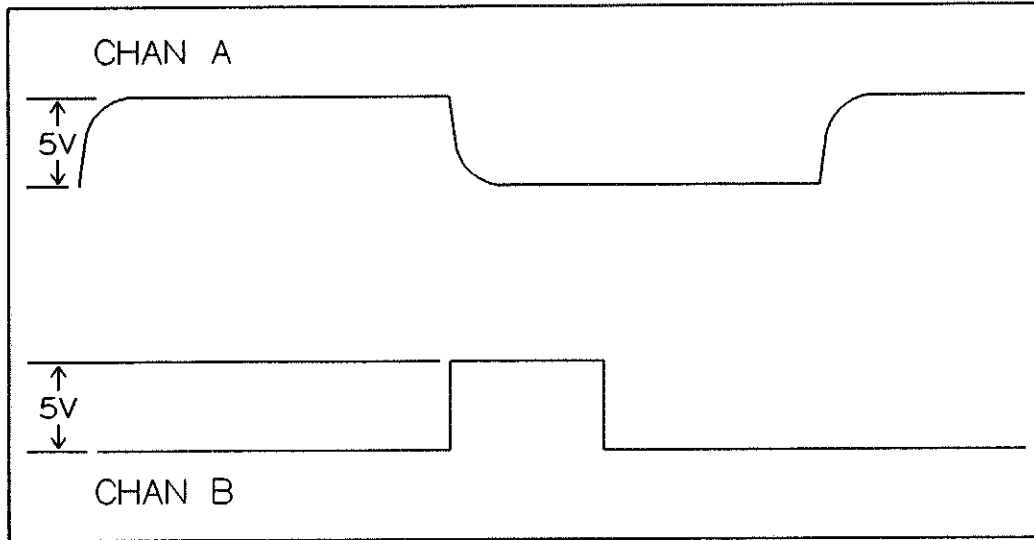

Figure 21-4 SYNC WF Waveforms
8. Verify that the waveform displayed on the oscilloscope is as shown in Figure 21-4. The sync pulse on channel B of the oscilloscope should go low approximately 4  $\mu$ S before the output pulse goes high.
25. Verify that the waveform displayed on the oscilloscope is as shown in Figure 21-4. The sync pulse on channel B of the oscilloscope should go low before the output pulse goes high.